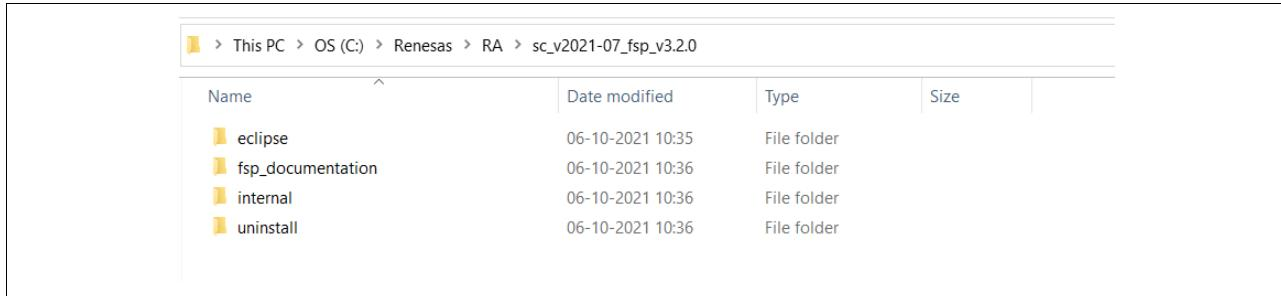

Figure 5. Installation Folders
5. Locate the installation folder and check for the newly installed RASC folder for the desired FSP version. It will have folders as shown in Figure 5 (installed as a new instance in default directory):